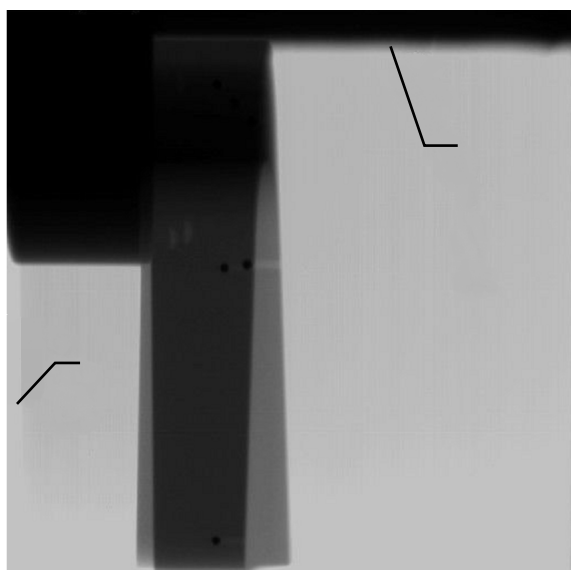

Figure 9-17a
- 12.** If on the top or on the bottom of the image is present the collimator shadow (1 - Figure 9-17a), adjust the primary 3D collimator offset (e.g. reduce the offset - see paragraph 7.3.4.7).
- 13.** If the shadow is on the left or right side (2 - Figure 9-17a), verify the mechanical alignment of the whole collimator.